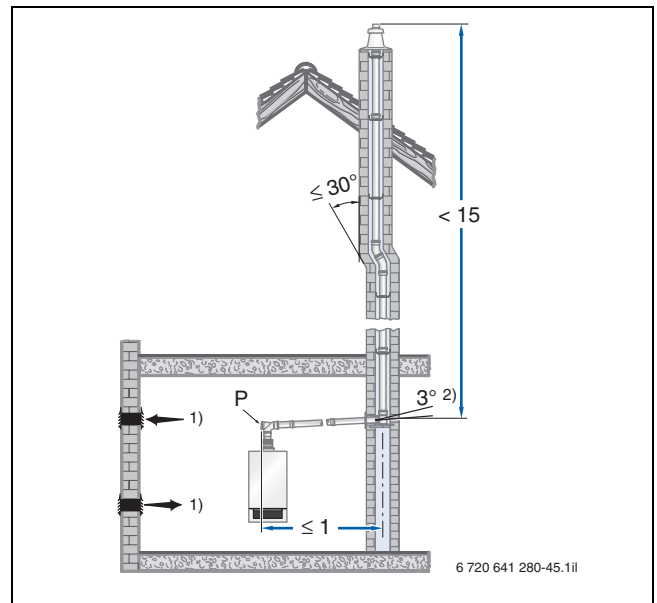
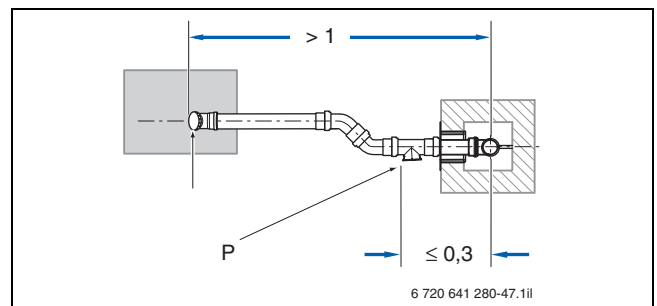

Fig. 104 Example with the inspection aperture (P) located in a horizontal flue without diversions in the installation room (dim. in m)
Fig. 105 Example with the inspection apertures (P) located in a horizontal flue with diversions in the installation room - top view (dim. in m)
According to DIN 18160-1 and DIN 18160-5, flue systems for open flue operation must be able to be inspected and cleaned easily and safely. For this, allow for inspection apertures (→ Fig. 104 and Fig. 105).
- at the face of the straight horizontal flue section, no further than 1 m from the diversion into the vertical section, subject to there being no diversion in between (→ Fig. 104, page 123) **or**
- in the side of the horizontal section of the flue, no further than 30 cm from the diversion into the vertical section (→ Fig. 105).
- The lower inspection aperture at DN 160 and DN 200 is arranged in accordance with Fig. 105
- The lower inspection aperture is implemented in accordance with DIN 18160-1 and 18160-5 (→ Fig. 104)